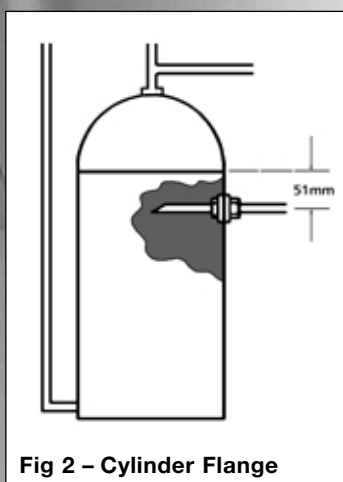

Fig 2 – Cylinder Flange
4. If this is not possible, a direct connection must be made from the hot water cylinder with a cylinder flange, Fig 2.